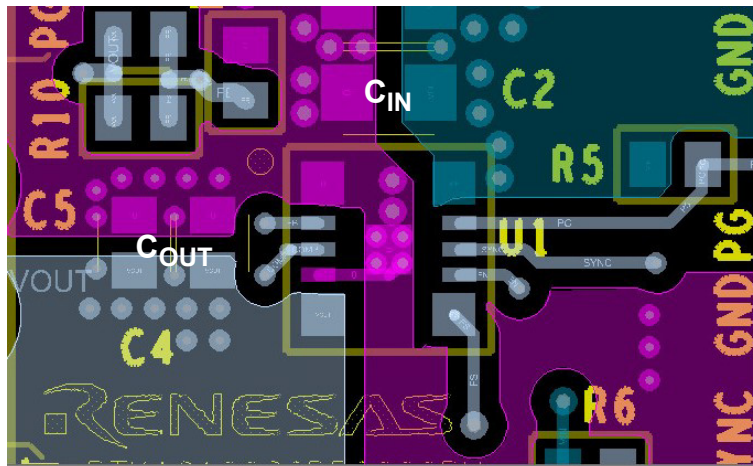
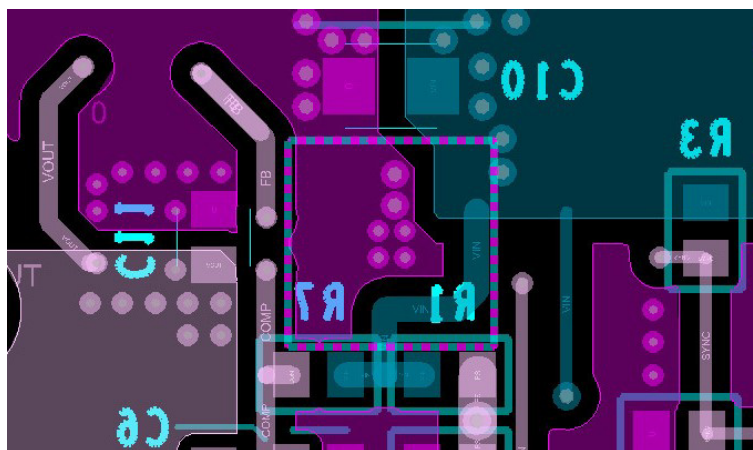

Figure 37. Layout Example - Top Layer
Figure 38. Layout Example - Bottom Layer
- Place the input ceramic capacitors as close as possible to the module input. These ceramic capacitors minimize the high frequency noise by reducing the parasitic inductance of the power loop. Proper placement of these capacitors not only leads to less PHASE node spikes and ringing, but also minimizes the switching noise coupled to the module. Renesas recommends using dielectric X5R or better with a minimum total capacitance of $22\mu\text{F}$ at the module input. A layout example is shown in Figure 37 and Figure 38.